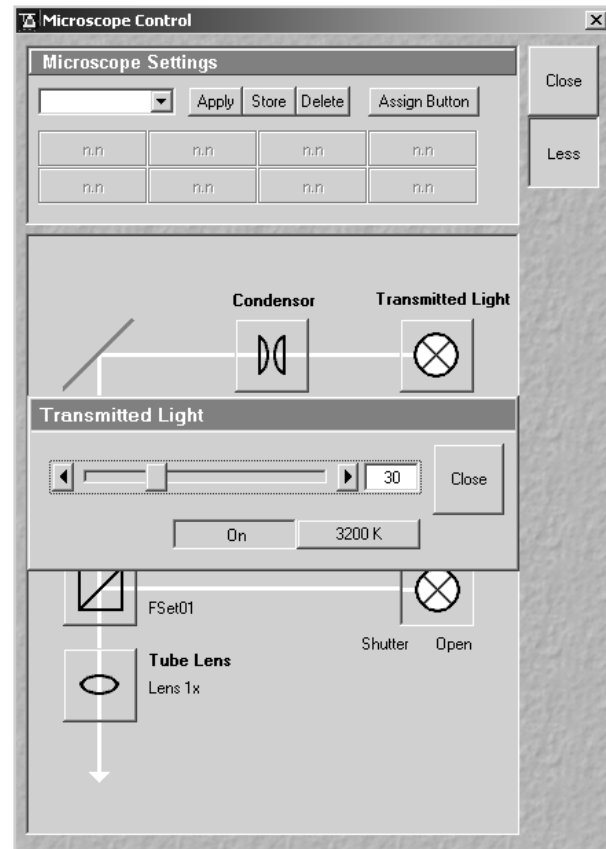

Fig. 5-34 Axiovert Control window
- This opens the **Axiovert Control** window on the screen (Fig. 5-34).